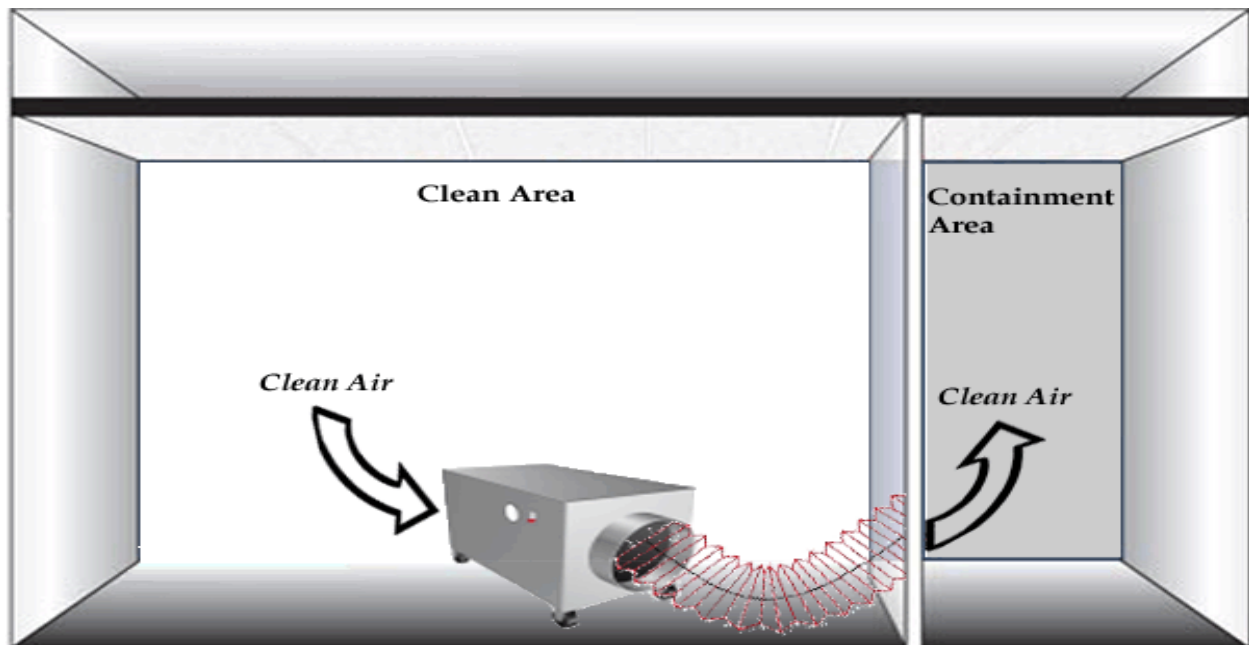

Figure 3
**To create positive pressure inside the containment,** more air has to be pumped in than leaks out of the containment. Place the machine outside the containment and hook a flexible duct to the outlet ring of the machine ducting the exhaust into the containment. (See Figure 3)